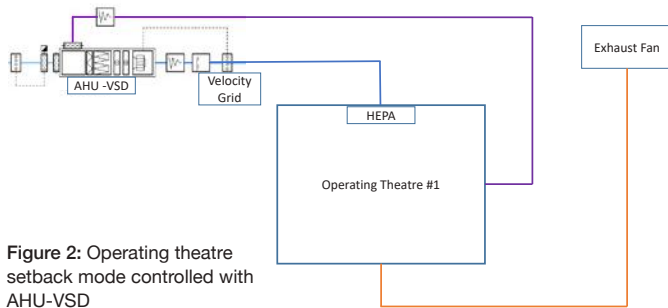

Figure 2: Operating theatre setback mode controlled with AHU-VSD
1. Setback mode is achieved through a Variable Speed Drive (VSD) on the air handling unit (dedicated AHU) with an in-stream velocity grid sensor to maintain airflow. Single AHU serving one operating theatre detailed in Figure 2.